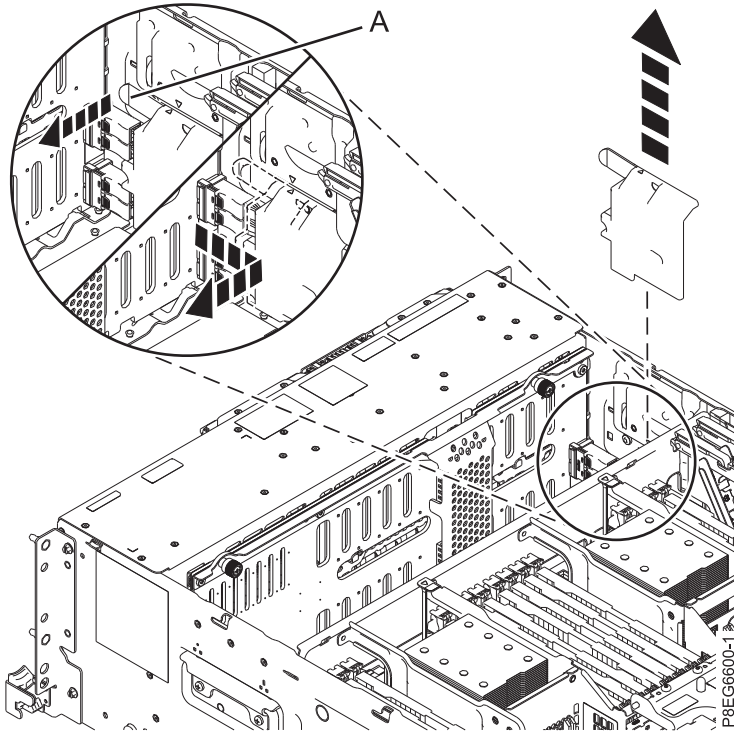

Figure 1. Removing the SAS cable cover
3. Remove the cover from the front SAS cable. Grasp the handle (A) and pull away from the side of the system, then slide the cover toward the rear to remove it as shown in Figure 1 on page 4.